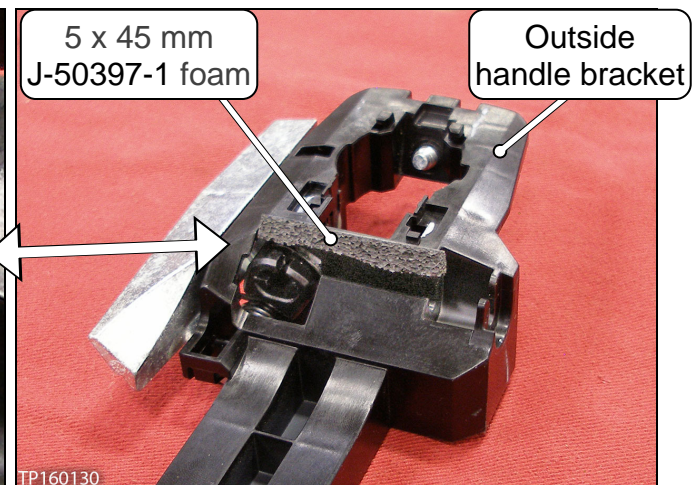

Figure 5
2. For the outside handle bracket (front door[s] only): Cut two (2) pieces of foam:
- Foam dimensions (both pieces): 5 x 45 mm (see Figure 5).